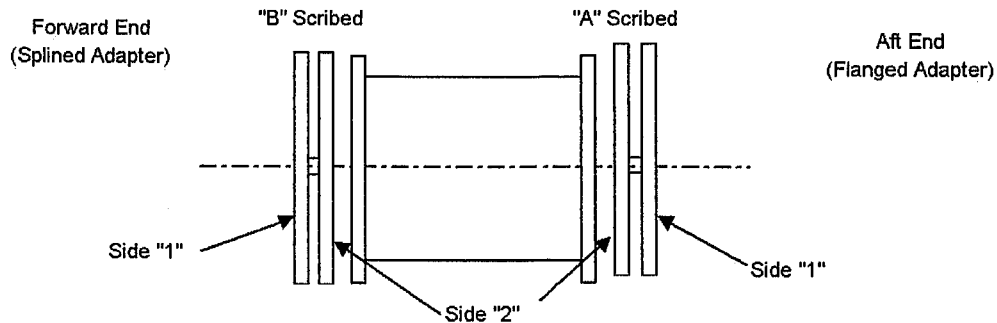

Figure 12 - Bolt Location Diagram
- b. Note the installation location (*See figure 12*). In the final assembly there are forty-eight bolts per interface, three large diameter bolts and forty-five small diameter bolts. Be sure to install the different thread lengths in original locations identified during disassembly to minimize unbalance. If bolts are not weight matched, they shall be separated by weight and distributed evenly to minimize weight removal during balancing.